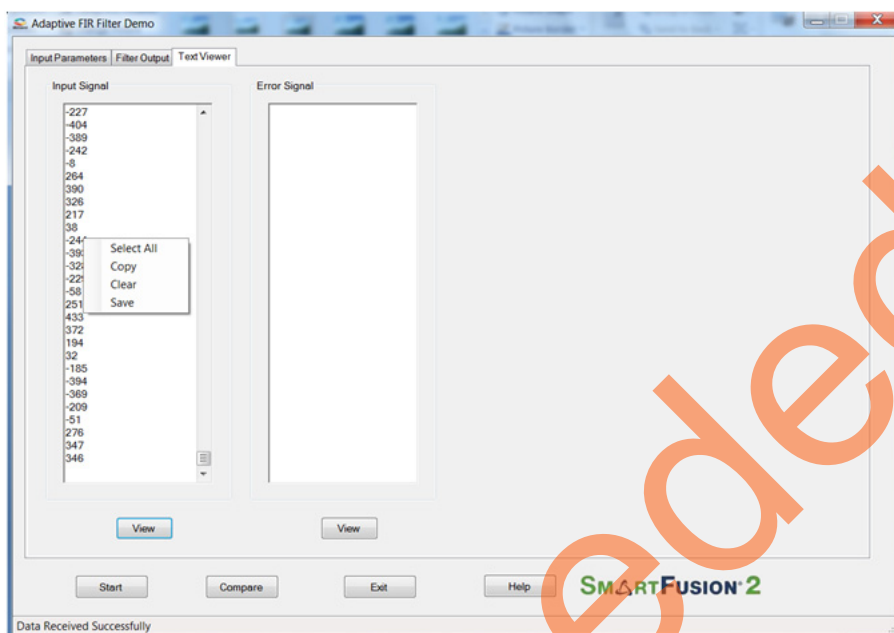

Figure 27 • Text Viewer - Coefficients Save Options
16. To save the Input Signal as a text file, right-click on the Input Signal window. The Input Signal window displays different options as shown in Figure 27.